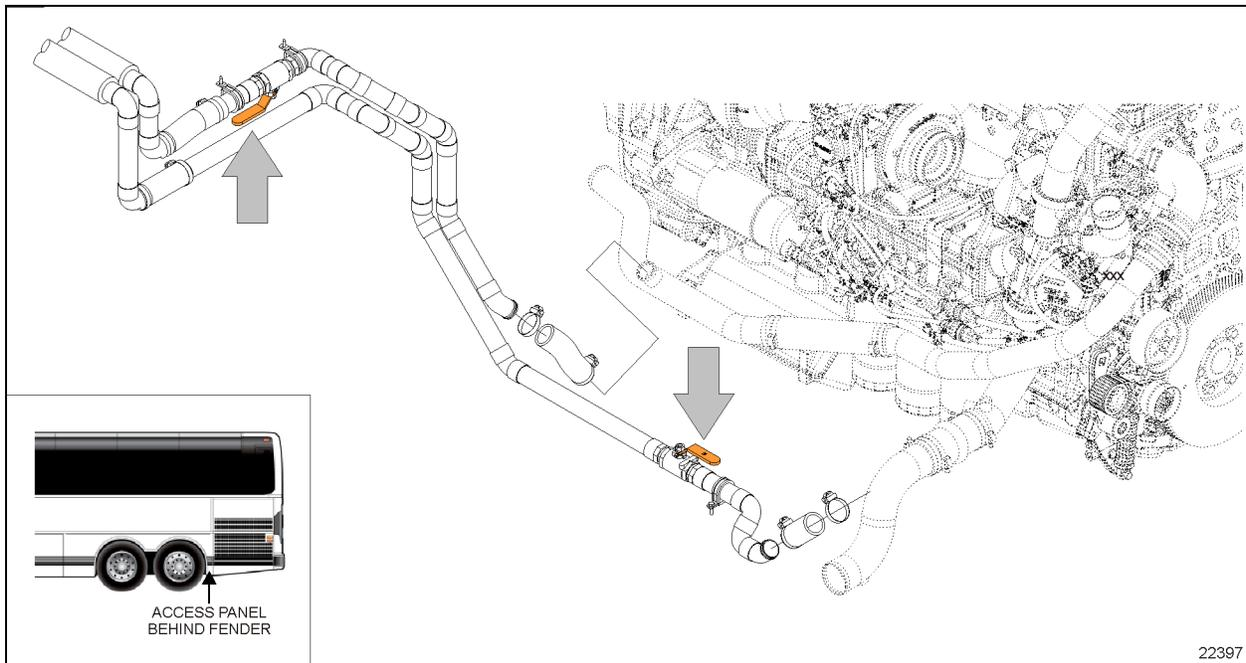
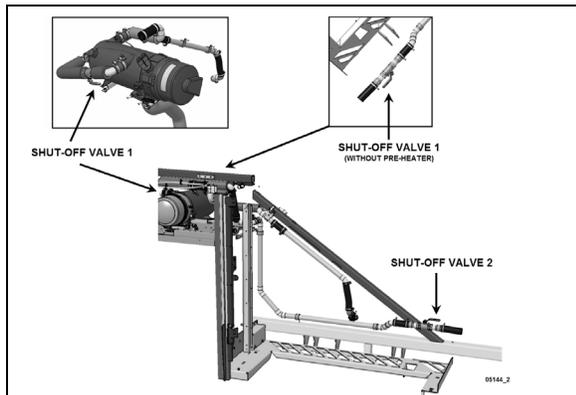

FIGURE 92 X3 SERIES HEATER LINE SHUT-OFF VALVES- (ALLISON TRANS. PIPING ARRANGEMENT SHOWN)
FIGURE 93: H3 SERIES HEATER LINE SHUTOFF VALVES 05144
3. Close the hot water lines shutoff valves located next the engine on street side (see Figure 92 or Figure 93).
2. Close both heater line shutoff valves (Figure 92 or Figure 93). One is located in the engine compartment, lower road side, near the radiator while the other one is located behind the L.H. hinged rear fender near the preheater.